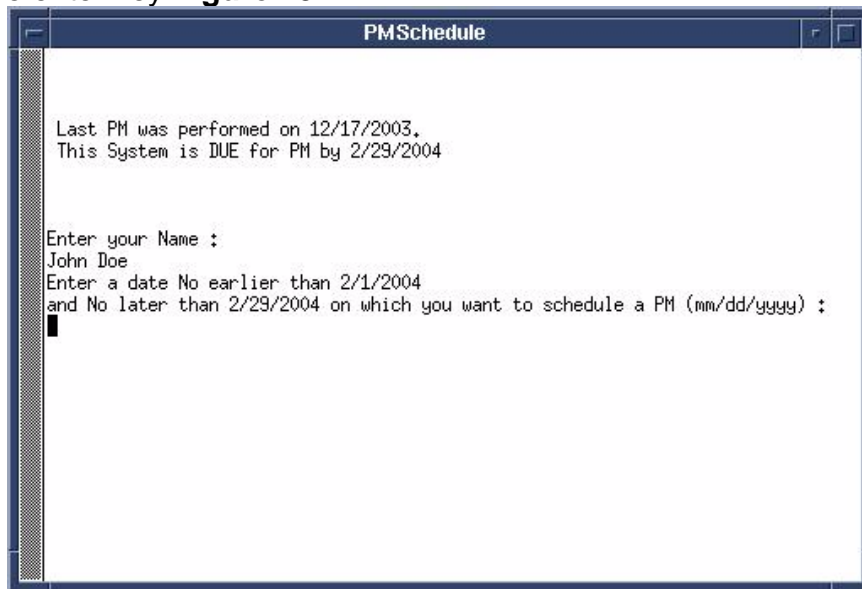

Figure 24
1. The tool will display the when the last PM was performed and when the next PM is scheduled. **Figure 24**